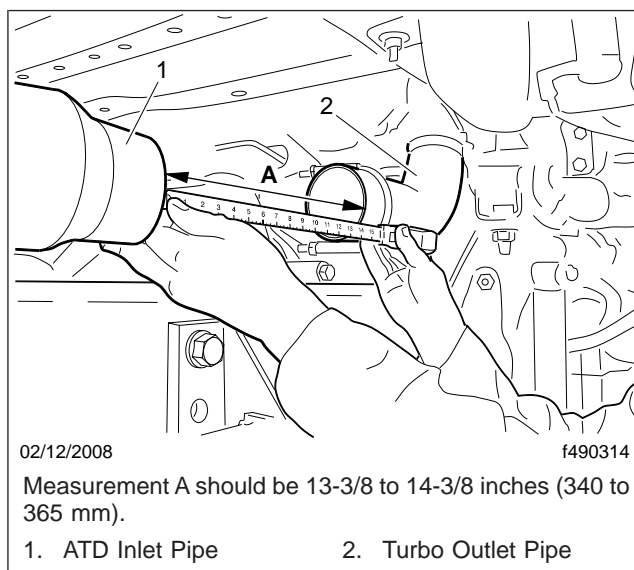

Fig. 4, Measuring Between the Pipes
4. Once the pipes are aligned and concentric, measure the distance between the ATD inlet pipe and turbo outlet pipe. See **Fig. 4**.